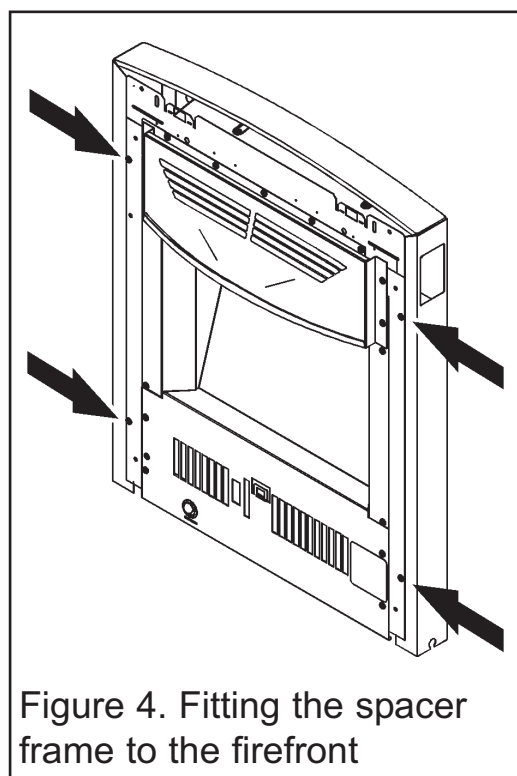

Figure 4. Fitting the spacer frame to the firefront
2. Secure the spacer frame to the firefront using four No.8 x 3/8 screws supplied (See figure 4 & 2).